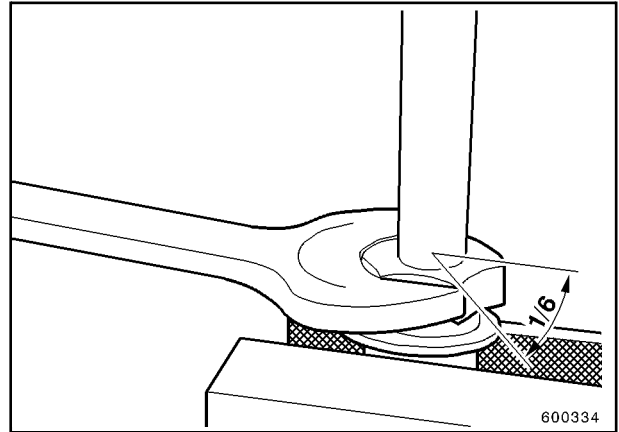

Fig. 14
9. Assemble the coupling again. Tighten union nut until resistance is noticed and then a further 1/6 of a turn (Fig. 14).